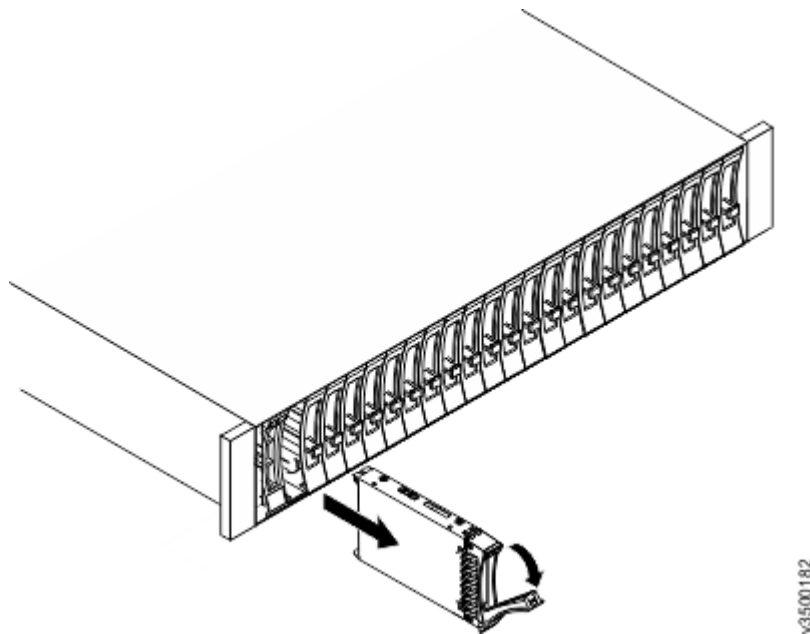
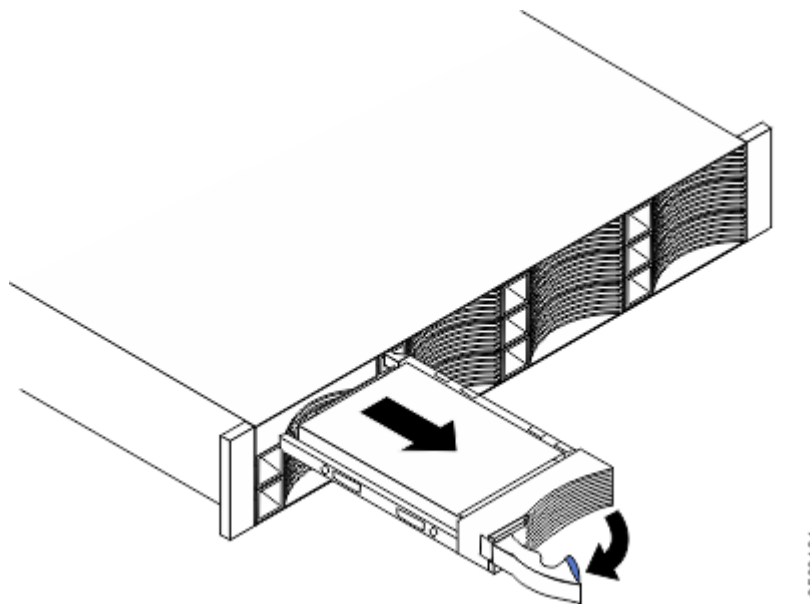

Figure 108. Removing a vertical style hard disk drive
Figure 109. Removing a horizontal style hard disk drive
6. Carefully remove each hard disk drive and label it with the drive slot from which it was removed (so that the drives can be inserted back into the same slots). Refer to Figure 108 on page 163 or Figure 109 on page 163.